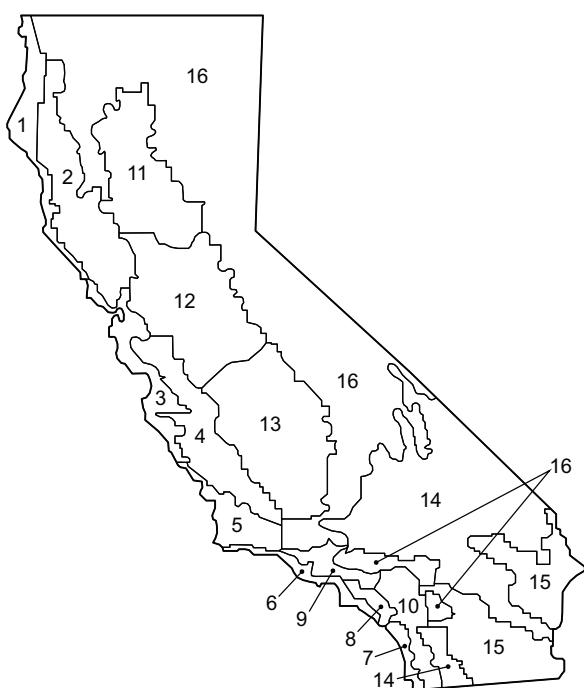

Fig. 80 – California Title 24 Zones
- Refer to Fig. 80 for map of California Title 24 zones.